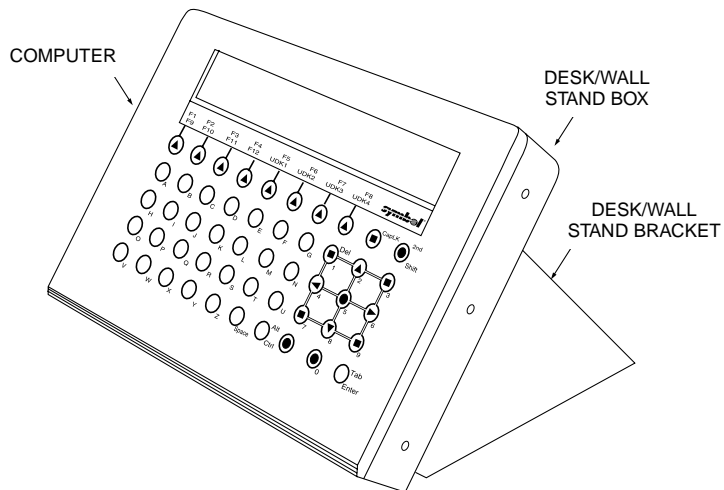

Figure 1-6. FMT1040 Installed in Wall/Desk Stand
5. With FMT1040 installed in the box, mount the tilt box to the bracket. The three adjacent holes on the bracket may be used to set the tilt at view different angles. Use the #6-32 Phillips screws and lock nuts to secure the bracket to the tilt box. Figure 1-6 shows the FMT1040 installed.